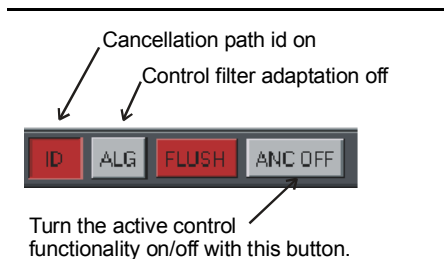

Figure 5 Button setup to turn on cancellation path modeling and turn off control filter adaptation.
We are now ready to turn on the active noise control system. Referring to Figure 5, on the toolbar of the front panel, select the ID button to be on, and the ALG button to be off. This will enable cancellation path modeling (ID) when the active noise control system (ANC) is turned on, while stopping the control filter adaptation. Now click on the ANC OFF / ON button (it doesn't matter if the sine wave generator is running at this stage - it is easier on the ears if it is off!).